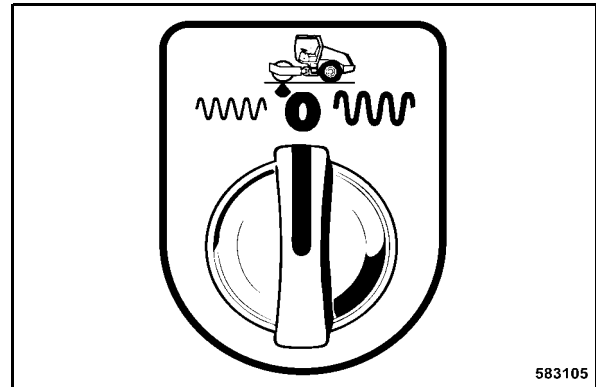

Fig. 64
- Preselect the desired amplitude with the rotary switch for vibration amplitude preselection (Fig. 64).